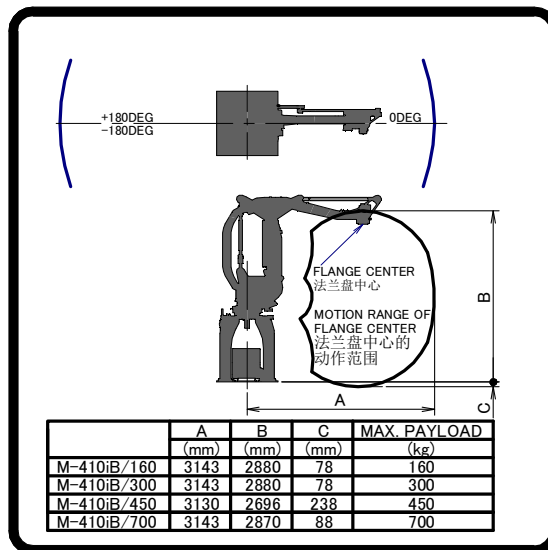

Fig. 4 (h) Operating space and payload mark label
**(7) Transportation caution label****Fig. 4 (g) Transportation caution label****Description**